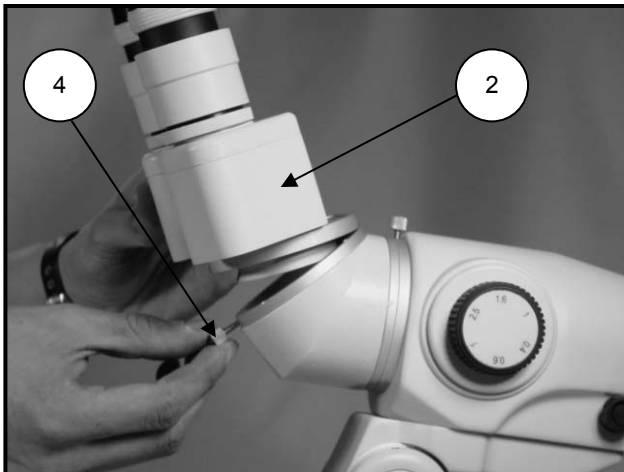

Fig. 18
- 13.1 Loosen the milled screw [4] and remove the binocular [2] from the colposcope. **Fig.18**